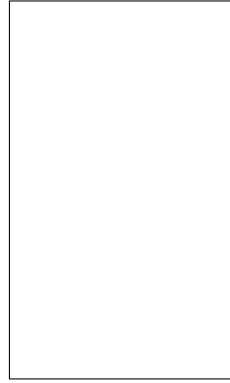

Figure 5: Schematic of the connection between Arduino UNO and the MCP4921.
1. Using Fig. 5 as a reference, connect the Arduino UNO to the MCP4921 DAC. Connect VDD to 5 V and both $AVSS$ and \overline{LDAC} to ground. A 0.1 μF and 1 μF capacitors could be used at $VREF$ to minimize noise at the reference. Connect the UNO with the computer using the USB cable, which is used both to program the UNO and power it up. It is very important to keep your circuit (ICs, resistors, capacitors, wires, etc) organized. Use as short of a wire as possible between two connection points. Refer to Fig. 6 for an example layout.